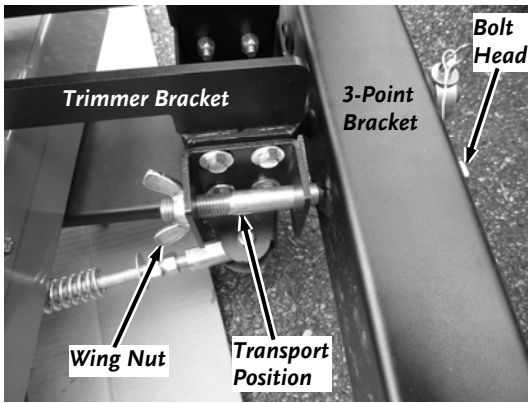

Figure 28
1. On the right hand side of the machine (trimmer head side), align the holes of the Trimmer with the holes in the 3-Point Hitch Bracket. Insert the Locking Bolt through the holes (**Figure 28**).